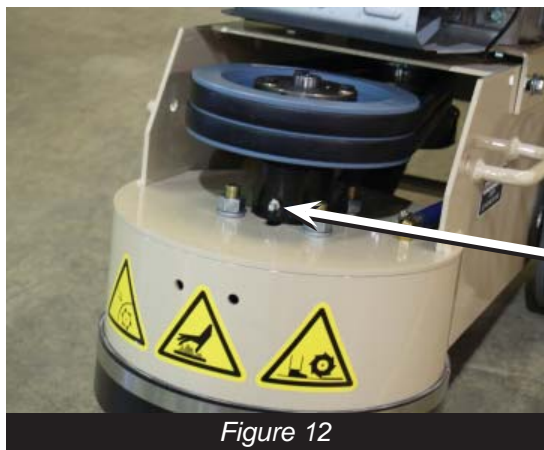

Figure 12
- Bearings (*Figure 12*) must be lubricated every 50 hours.